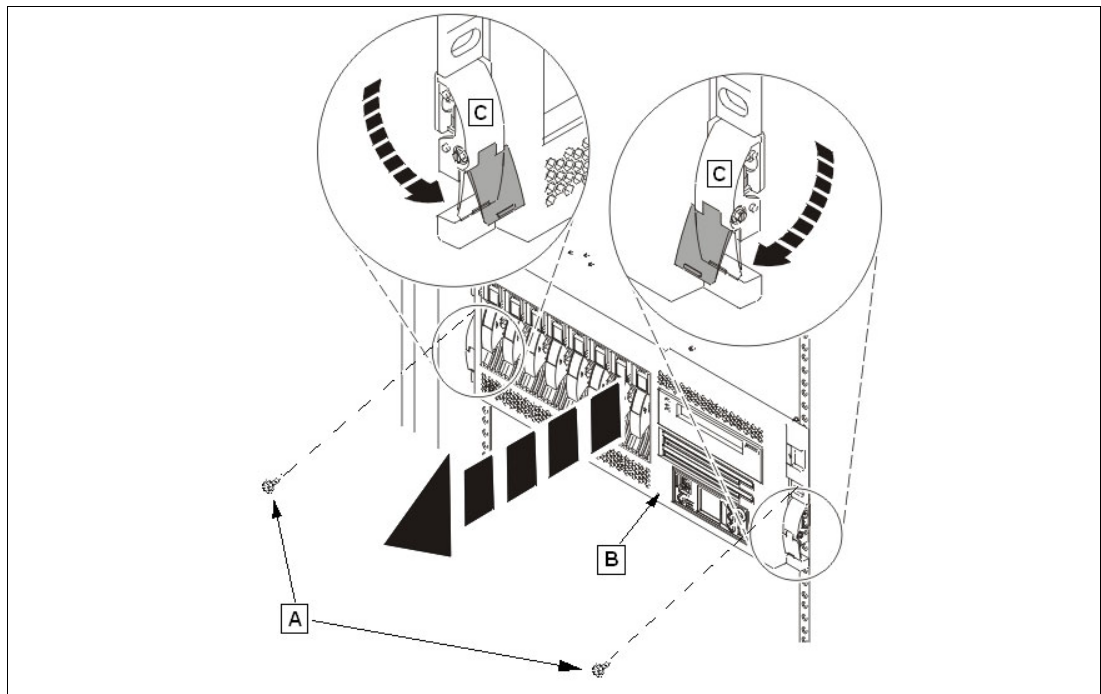

Figure 2-19 Pull the p5-550 or p5-550Q to the service position
2. Remove the two thumbscrews A that secure the system or expansion unit B to the rack as shown in the Figure 2-19.
3. Release the rack latches C on both the left and right sides as shown in the Figure 2-19.